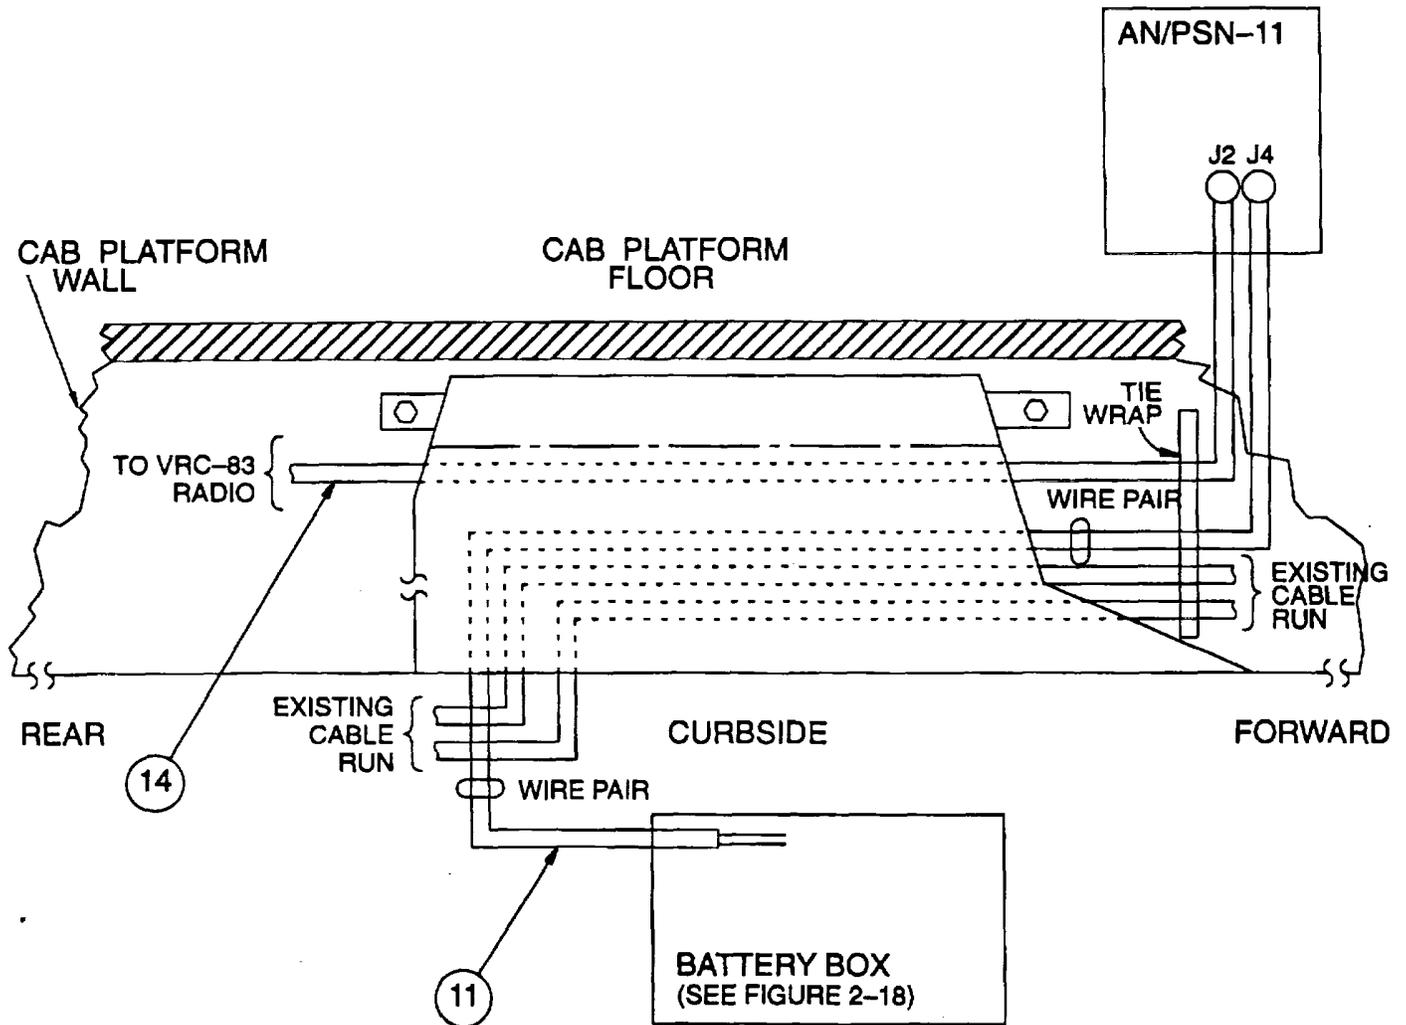

Figure 2-19. Curbside Heat Shield Installation
Refer to Figure 2-19. After the AN/PSN-11 cable assembly (14) connector is located at the AN/PSN-11 mount base location, the other end of the cable is routed under the heat shield to the radio rack bottom shelf AN/VRC-83(V)3 location. This cable and the AN/PSN-11 external power cable are tie wrapped together at the mount base location and with the existing cable run. At the radio rack end, excess cable is looped and tie wrapped; then stored at the heat shield location. The heat shield is then reinstalled in place with the mounting hardware.